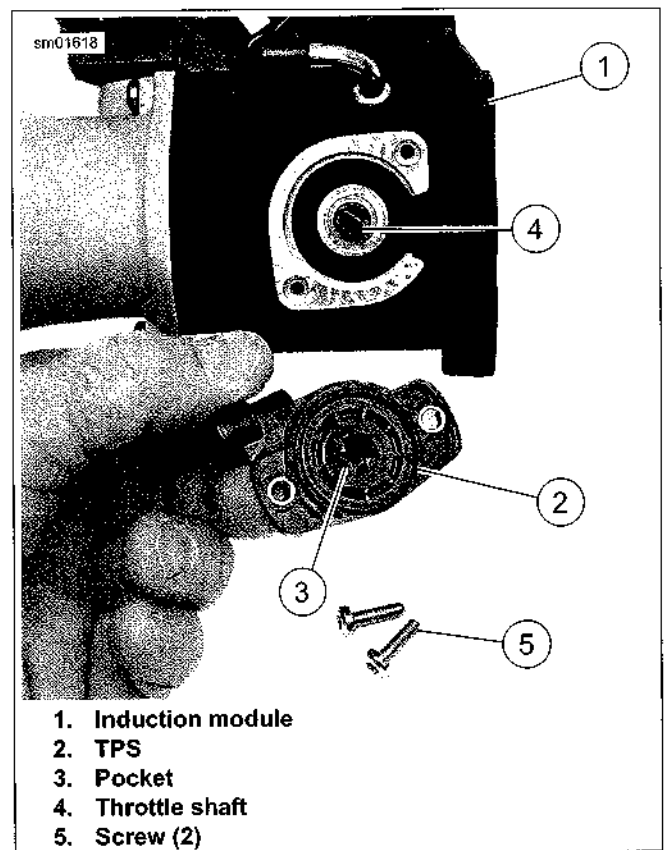

Figure 4-10. TPS Installation
1. See Figure 4-10. Fit pocket (3) of TPS (2) over throttle shaft (4). Orient TPS correctly and line up mounting holes in sensor with holes in body of induction module (1).